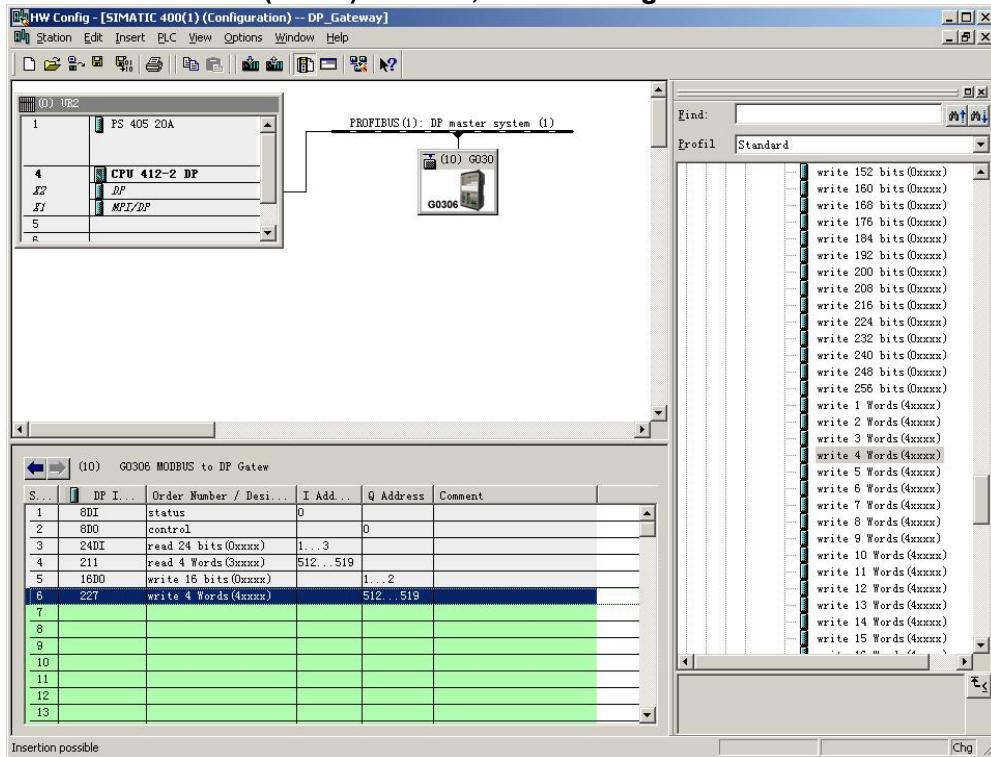

Figure 25 Add “write 4 Words(4xxxx)”Module
a) Add “write 4 Words(4xxxx)”Module, shown in Figure 25: